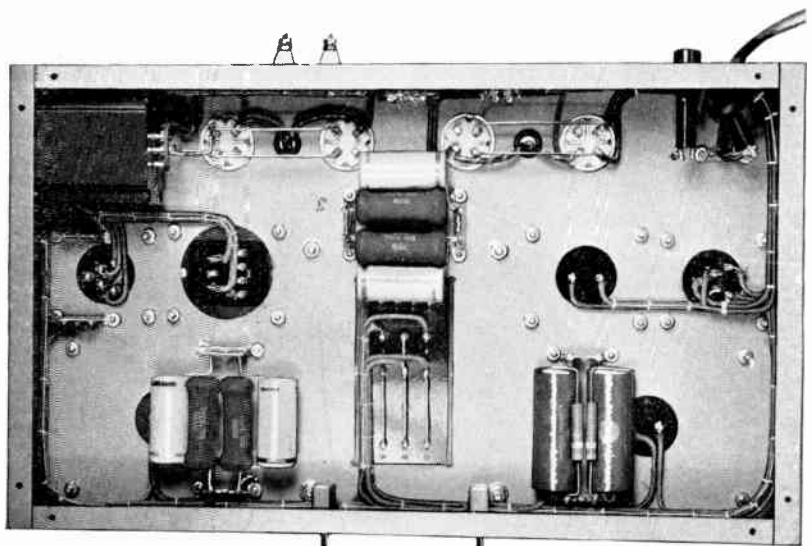
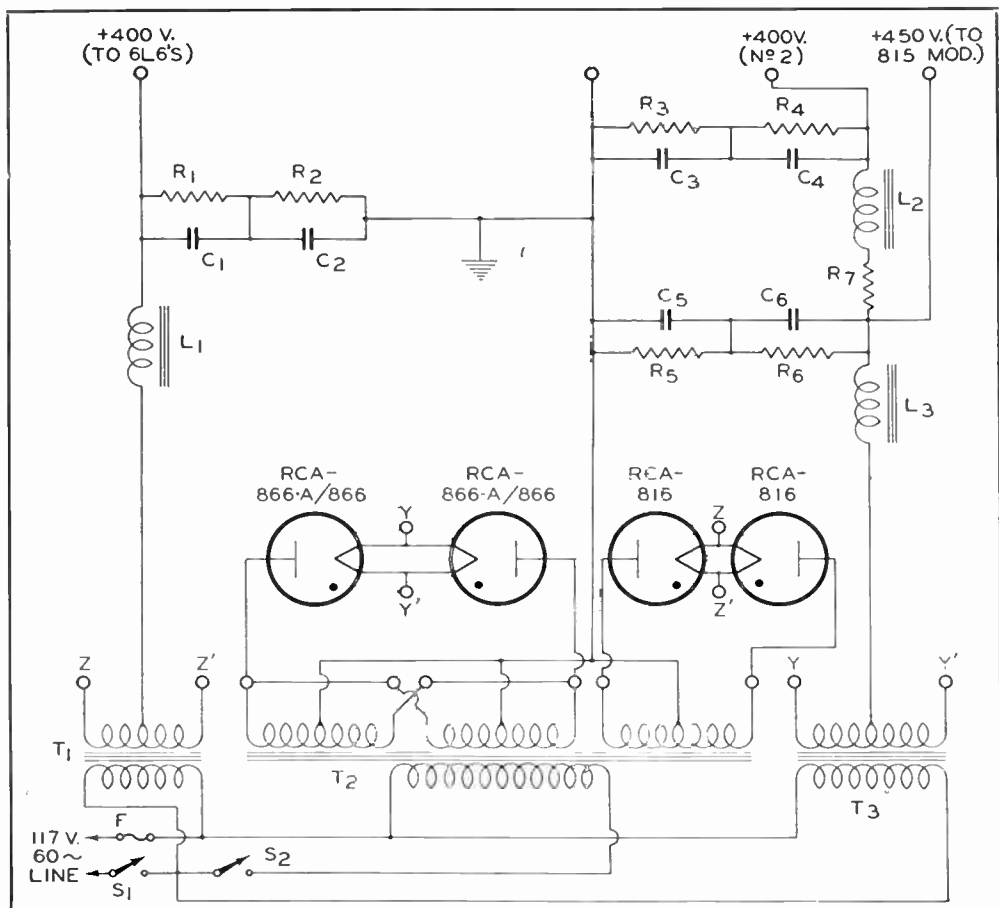

FIG. 24
FIG. 26
The total plate-current requirements of the r-f and modulator units is greater than 500 ma. at 400 to 450 volts. A heavy, three-winding power transformer feeding into two different rectifier and filter systems proves to be an economical design. The unit is illustrated in Figs. 24 and 25; the circuit is given in Fig. 26.
**PARTS FOR FIG. 26**